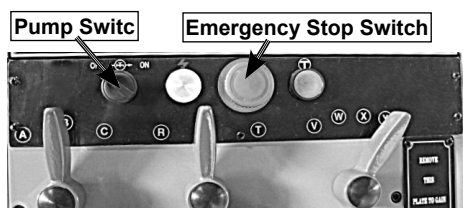

Figure 14. Control Panel.
4. Turn the pump switch to the OFF position, fill the cutting fluid reservoir, and point the fluid nozzle into the chip pan.(Figure 14)